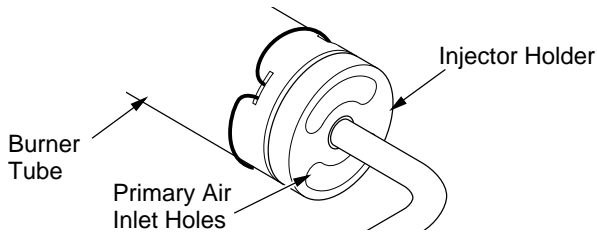

Figure 50 - Injector Holder On Outlet Burner Tube
2. Inspect burner, pilot, and primary air inlet holes on injector holder for dust and dirt (see Figure 50, page 25).